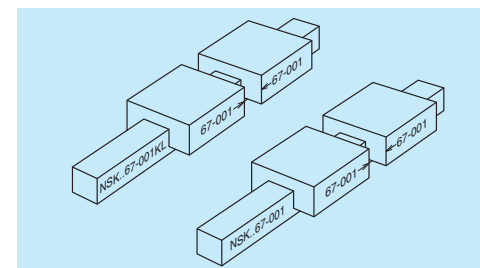

Fig. 10.30 When two rails have different reference numbers
- When two or more rails of different reference numbers are used in a single set, the rails and slides have the same serial number. In this case, when slides are removed from the rail, it is unclear which rail each slide was previously installed on. When removing ball slides from the rail for an unavoidable reason (Fig. 10.30), sufficient caution is required.